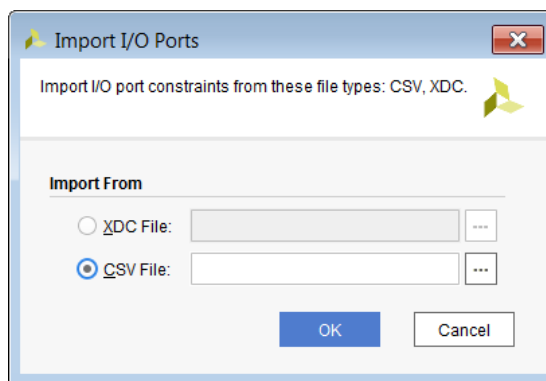

Figure 3-7: Import I/O Ports Dialog Box
2. In the Import I/O Ports dialog box (Figure 3-7), select **CSV File**, and browse to select the file to import.
2. In the Import I/O Ports dialog box (Figure 3-7), select **XDC File**, and browse to select the file to import.